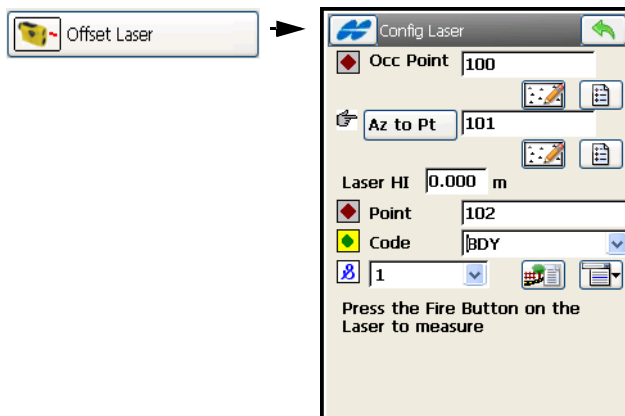

Figure 9-15. Config Laser
**For the Laser without an Encoder** the *Config Laser* screen (Figure 9-15 on page 9-16) defines an occupation point and backsight azimuth or point, and defines the laser height and point information.